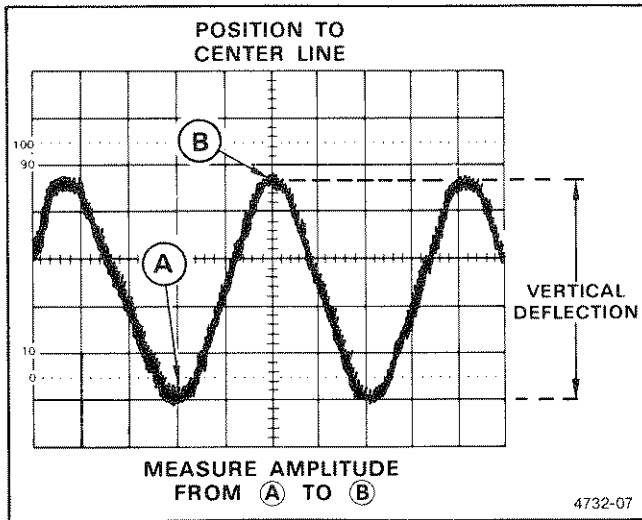

Figure 2-12. Peak-to-peak waveform voltage.
6. Vertically position the display so that the negative peak of the waveform coincides with one of the horizontal graticule lines (see Figure 2-12, Point A).
7. Horizontally position the display so that one of the positive peaks coincides with the center vertical graticule line (see Figure 2-12, Point B).
8. Measure the vertical deflection from peak-to-peak (see Figure 2-12, Point A to Point B).
EXAMPLE: The measured peak-to-peak vertical deflection is 4.6 divisions (see Figure 2-12) with a VOLTS/DIV switch setting of 5 V (at 10X PROBE indicator), using a 10X probe.